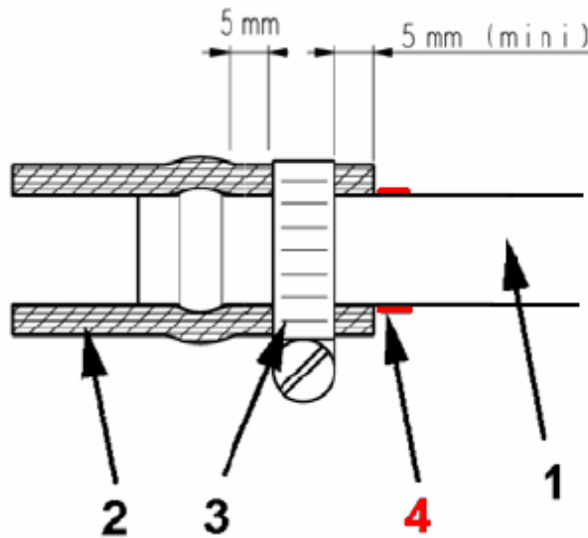

Figure 71-62e
(12) Position hoses and clamps per figure 71-62e.
(per figures 71-62e and 71-62f)